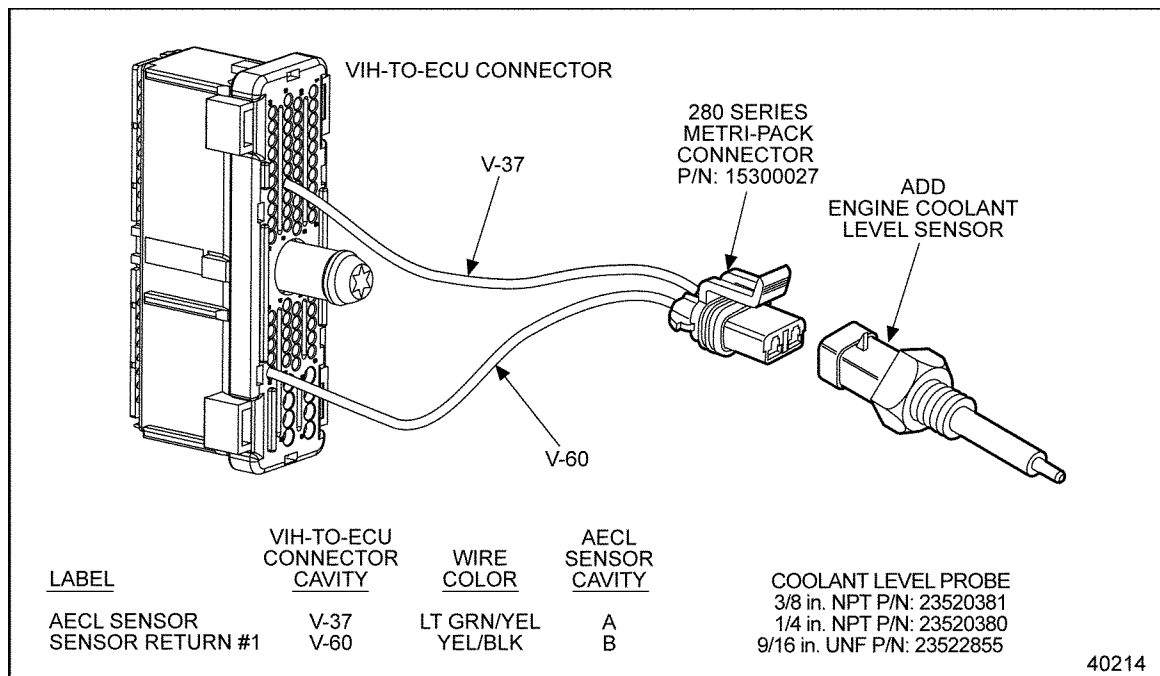

Figure 75-1 Add Engine Coolant Level Sensor
1. Remove the ACLS/AECL Sensor and clean (or replace) the probe. See Figure 75-1